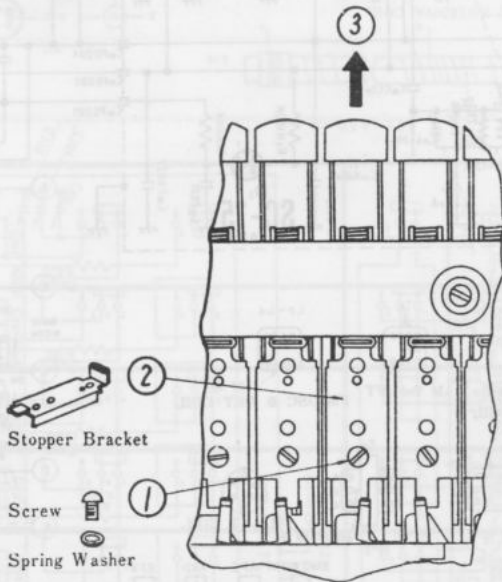

Fig. 5
2. Remove screw ① (Fig. 5).
3. Remove stopper bracket ② (Fig. 5)
4. Pull buttons in the direction of arrow mark ③ (Fig. 5)